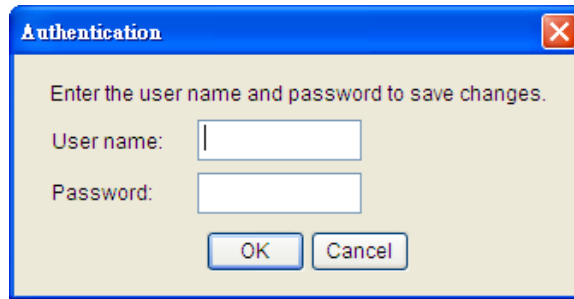

Figure 3. The authentication window.
7. You will need to enter a User Name and Password for the Remote Management Card (Figure 3) in the authentication window, as shown in figure 3.